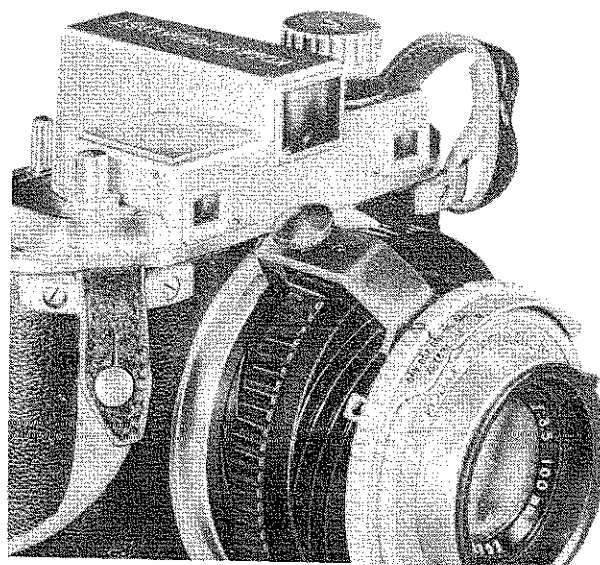

Figure 19—Infinity Stop in Position
k. **USING AN INFINITY STOP.**—The infinity stop, available as an accessory for the Kodak Medalist, holds the focusing tube rigidly in the infinity position. To attach the infinity stop to the camera, extend the focusing tube as far as possible. Place the stop over the focusing tube with the tongue under the focusing collar as shown in figure 19. Retract the focusing tube to the infinity position and tighten the knurled screw.